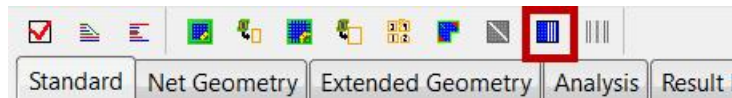

Figure 6–21
2. In the Ply toolbar, click  (Ply Drop-Off) as shown in Figure 6–21.
3. Specify the following parameters as shown in Figure 6–22: